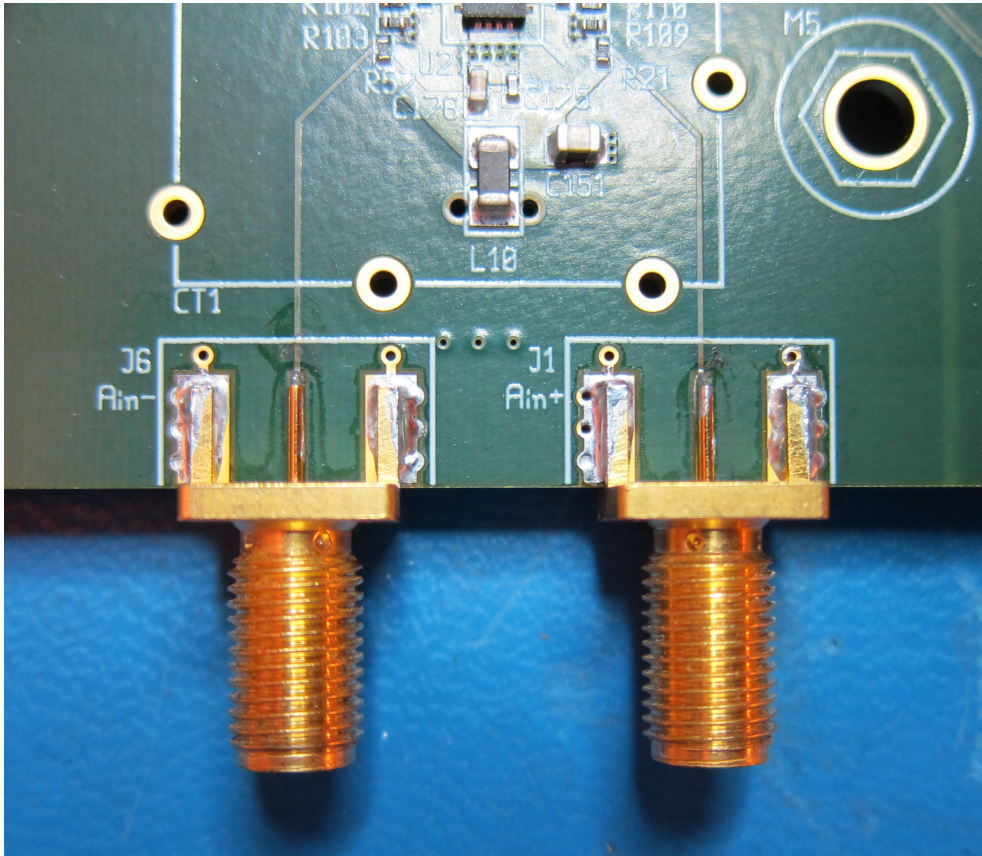

Figure 29: Soldering the center pins of the SMA connectors.
8. Place PCB on the workbench and solder the center pins of all 8 SMA connectors. *Make sure the solder flows all the way along the center pin.* Figure 29.